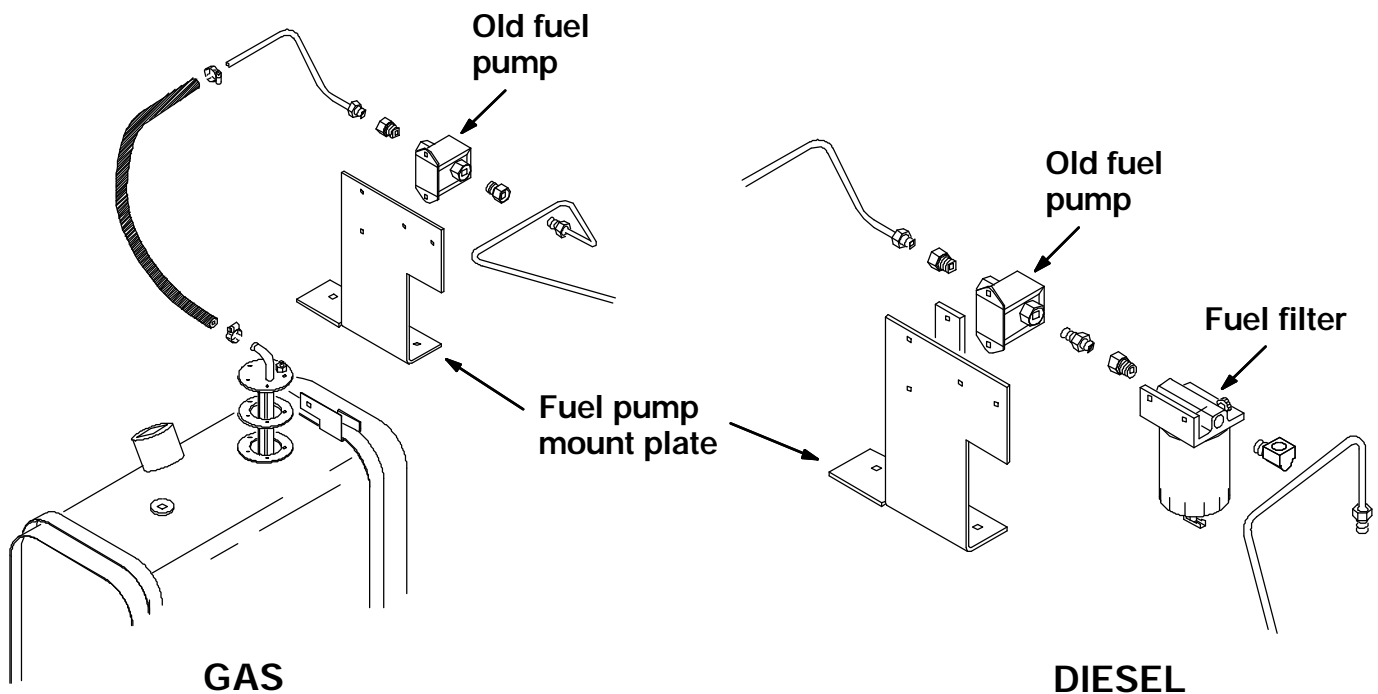

FIG. 2 - 8400 Fuel Pump Installation
(Refer to FIG. 2 and 3)
4. Disconnect the old fuel pump from the main electrical harness. (Refer to Fig. 2)
5. Disconnect the fuel lines from the inlet port of the old fuel pump and the outlet port on the fuel filter **(diesel machine only)**. The gas machine does not have a filter in this location. (Refer to Fig. 2)
NOTE: Place a drain pan under the machine in the area of the fuel pump to catch any fuel that may run out of the disconnected lines. (Refer to Fig. 2)
6. Remove and retain the hardware holding the old fuel pump to the fuel pump mount plate. Remove the old fuel pump from the machine **(gas machine only)**. (Refer to Fig. 2)
7. Remove and retain the hardware holding the fuel filter to the fuel pump mount plate. Remove the filter and pump assembly **(diesel machine only)**. (Refer to Fig. 2)
8. Un-screw the fitting from the inlet port on the old fuel pump where it attaches to the fuel filter. Remove the old fuel pump from the machine **(diesel machine only)**. (Refer to Fig. 2)
9. Remove the fittings from the old fuel pump and install in the same orientation on the new fuel pump (1). (Refer to Fig. 2 and 3)
(Refer to Fig. 2)
2. Mount the filter and pump assembly on the pump mount plate. (Refer to Fig. 2 and 3)
3. Mark and drill the holes for the new fuel filter. Install the hardware. (Refer to Fig. 2 and 3)
5. Plug the new harness (3) into the main machine harness.
6. Reconnect the fuel lines to the new fuel pump (1). (Refer to Fig. 2 and 3)
8. Reconnect the battery cables and start the machine. Check for any leaks at the new fuel pump. (Refer to Fig. 2)